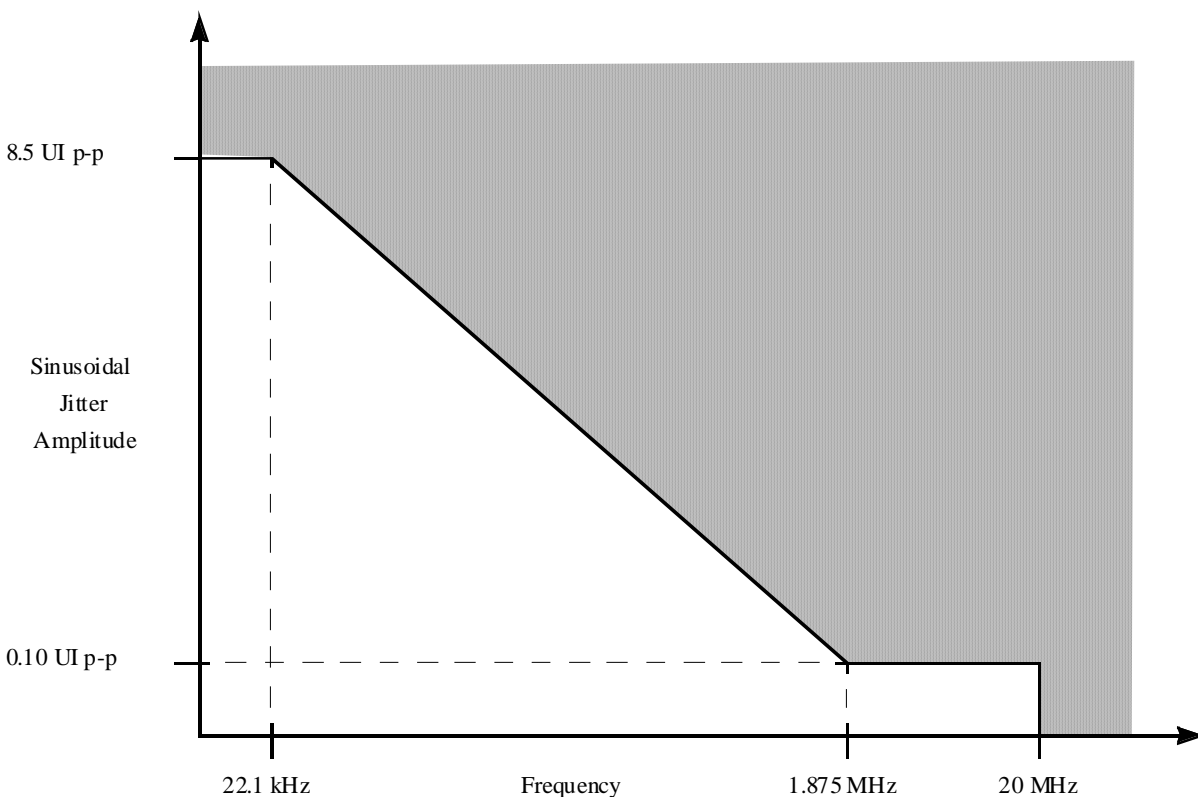

Figure 14. Single frequency sinusoidal jitter limits
- See Figure 14 for single frequency sinusoidal jitter limits.